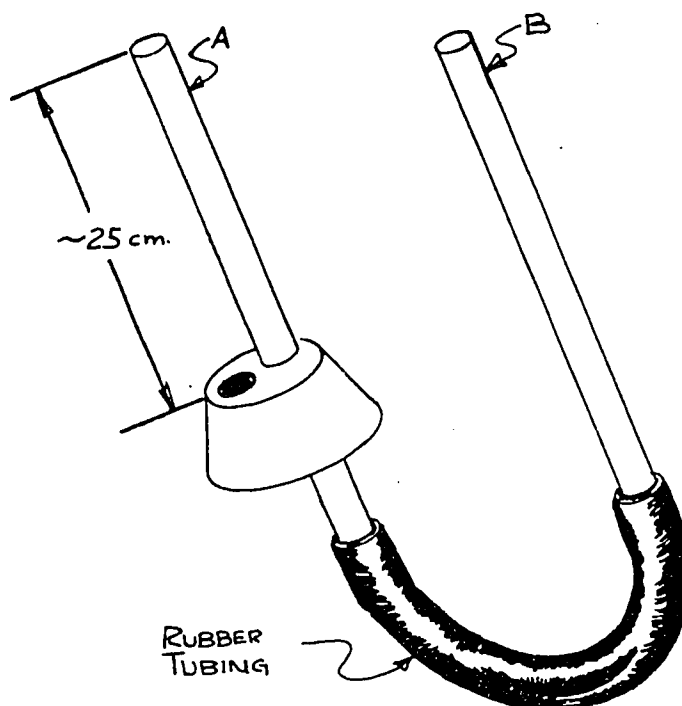

FIGURE 2: Initial assembly.
1. Insert one of the 30-cm lengths of glass tubing through the rubber stopper as shown in Figure 2. Note that the wide end of the stopper is down.
2. Complete the initial assembly by connecting the two 30-cm lengths of glass tubing with a length of rubber tubing. (See Figure 2.)
4. Have a second person help you with this step. Use a medicine dropper to add ethylene glycol to the tube marked B in Figure 2. Continue adding